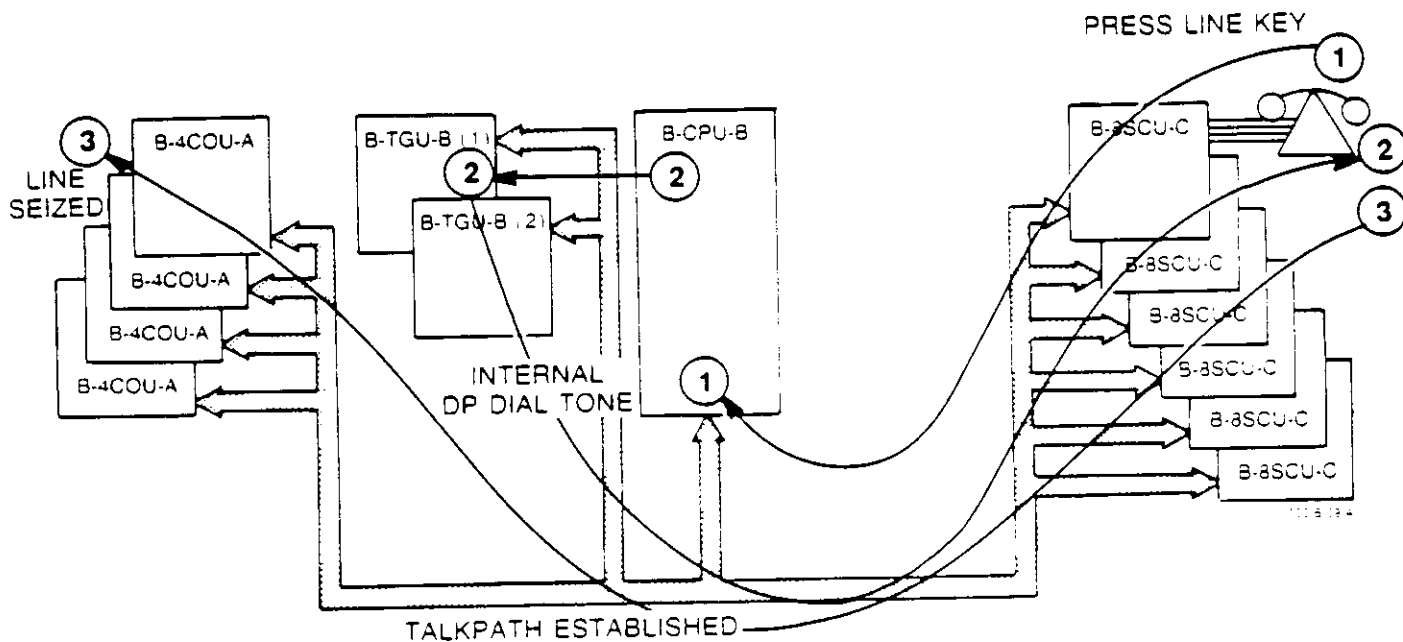

Figure 8-19 PLACING AN OUTSIDE CALL, EK-824/1232/1648 (Page 1 of 2)
5.09 The audio connection is from the telephone, through a crosspoint on the B-8SCU-C PCB, to the Direct Access Line path in the KSU backplane, and finally to the audio circuit on the appropriate B-4COU-A PCB (Figure 8-19, signal 3).